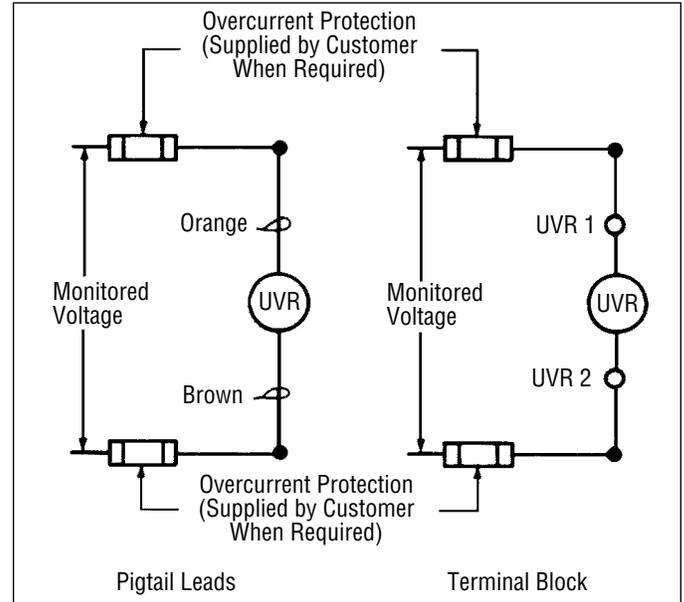

Figure 2-7 Undervoltage Release Mechanism (Handle Reset) Connection Diagram
- 2-14. Connect UVR as required (see Figure 2-7)